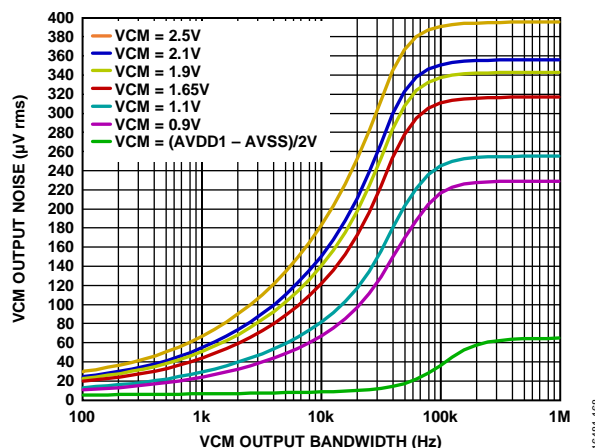

Figure 66. VCM Output Noise vs. VCM Output Bandwidth
Figure 66 is a simulation of the VCM noise for each VCM setting, plotted over a bandwidth of 100 Hz to 1 MHz. An external resistor capacitor (RC) filter is required to set the bandwidth to meet the VCM noise requirement. For example, a VCM output of 2.5 V has 180 $\mu\text{V rms}$ of noise (see Figure 66). If the bandwidth is limited to 1 kHz, this noise can be reduced to approximately 65 $\mu\text{V rms}$ (see Figure 66).